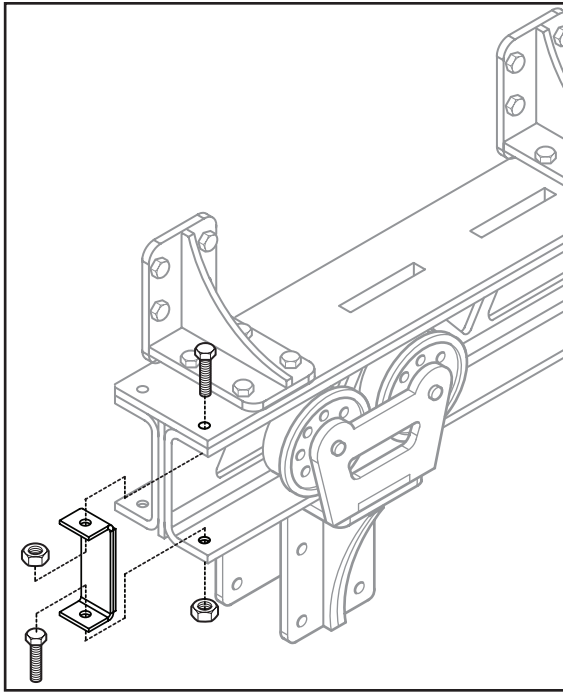

Figure 11
13. Install the track stops (G.) by sliding the stop into both sides of the I-beam track end. Align the holes in the stop with the holes on the end of the I-beam track (Figure 11).
14. Install the track stop using two bolts (D.) and nuts (E.) (Figure 11).